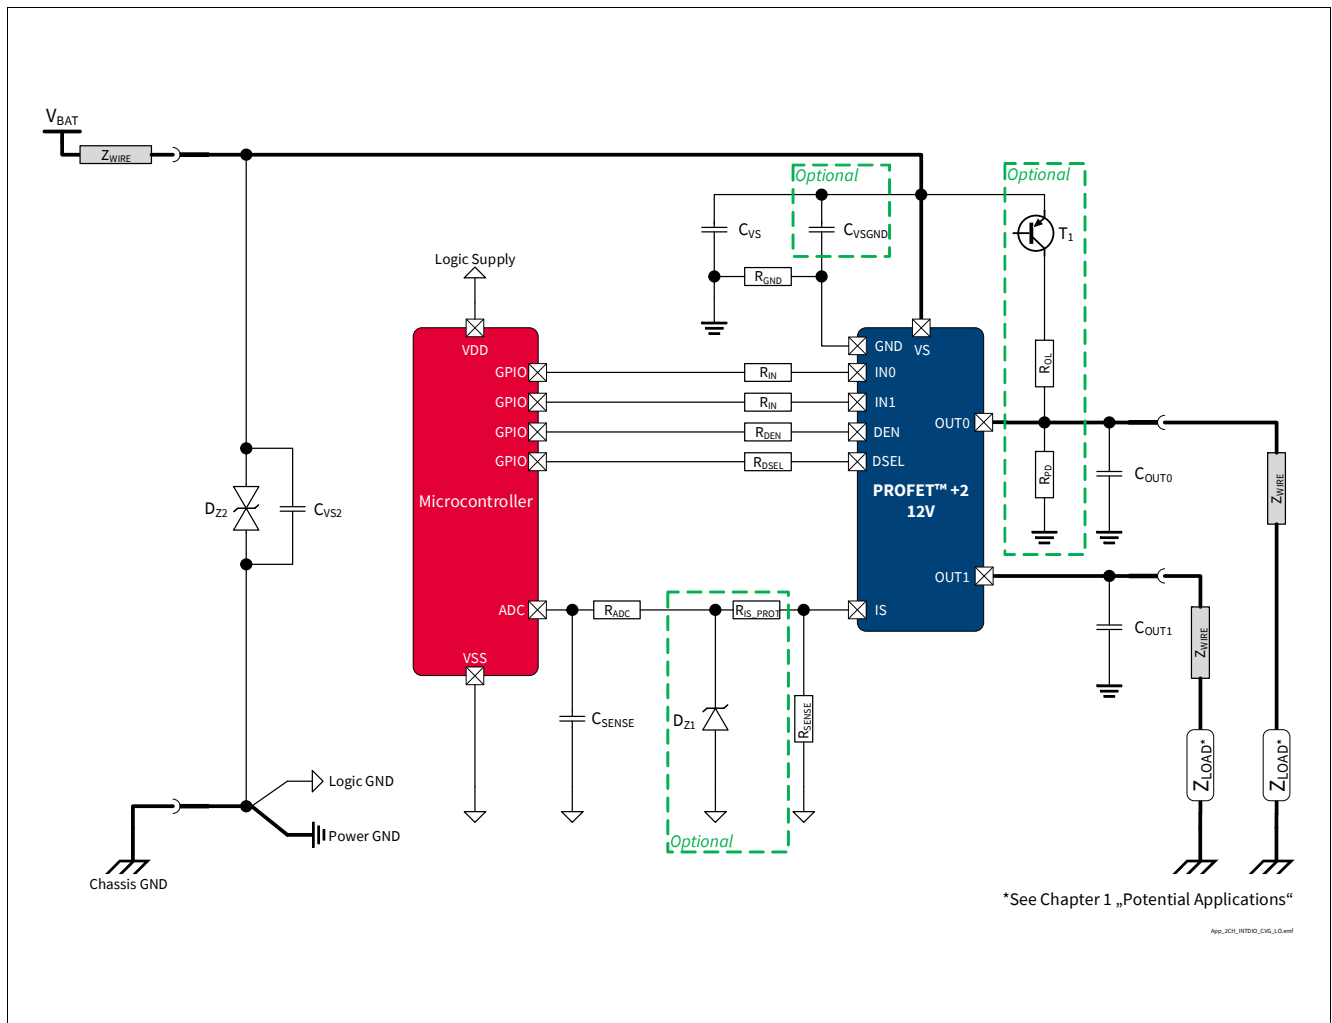

Figure 43 BTS7012-2EPA Application Diagram
1.05, 2019-10-15	<p>P_8.7.3.1, P_8.7.3.7, P_8.7.3.8 updated (added in Note or Test Condition: link to Figure 25)</p> <p>P_7.5.3.4, P_7.5.3.5 updated (added in Note or Test Condition: DEN = “low”; link to Figure 19)</p> <p>P_7.5.3.12 updated (added in Note or Test Condition: see Figure 21; deleted unnecessary space in Symbol: $dV_{OUT} / dt \rightarrow dV_{OUT} / dt$)</p> <p>P_8.7.3.6 updated (added in Note or Test Condition: see Figure 26)</p> <p>P_9.7.3.1 updated (added in Note or Test Condition: See Figure 34)</p> <p>P_9.7.3.6 updated (Min./Typ./Max.: -45%/4800/+45% → -34.0%/4875/+34.0%)</p> <p>P_9.7.3.9 updated (Min./Typ./Max.: -38%/4800/+38% → -25.0%/4875/+25.0%)</p> <p>P_9.7.3.12 updated (Min./Typ./Max.: -34%/4800/+34% → -22.5%/4875/+22.5%)</p> <p>P_9.7.3.15 updated (Min./Typ./Max.: -22%/4800/+22% → -12.5%/4875/+12.5%)</p> <p>P_9.7.3.17 updated (Min./Typ./Max.: -9%/4800/+9% → -7.7%/4875/+7.7%)</p> <p>P_9.7.3.19 updated (Min./Typ./Max.: -6%/4800/+6% → -4.5%/4875/+4.5%)</p> <p>P_9.7.3.21 updated (Min./Typ./Max.: -5%/4800/+5% → -4.0%/4875/+4.0%)</p> <p>P_7.5.3.11 updated (added in Note or Test Condition: see Figure 19)</p> <p>Figure 1, Figure 43 updated</p> <p>Chapter 1 updated (or LED equivalent → or equivalent electronic loads (e.g. LED modules))</p> <p>P_4.3.0.7 added</p> <p>Table 24 updated</p> <p>Chapter 5.1 updated (added: see Chapter 10 for the complete application setup overview)</p>